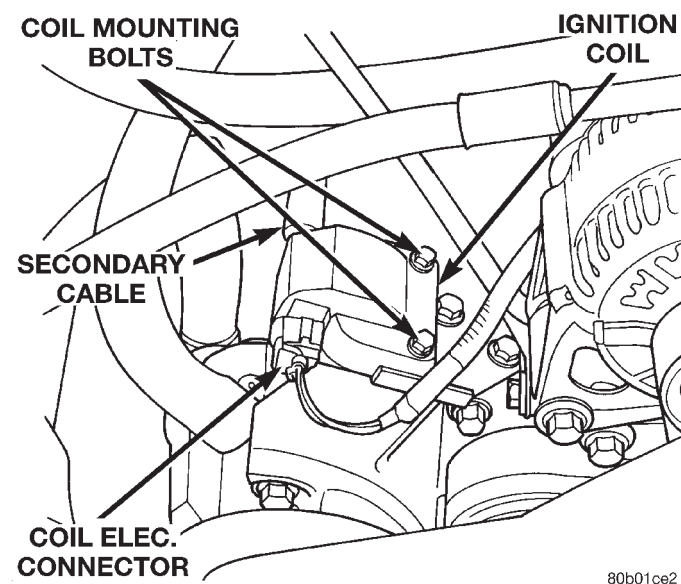

Fig. 42 Ignition Coil—5.9L V-8 HDC-Gas Engine
5.9L V-8 HDC-Gas Engine: The coil is mounted to a bracket that is bolted to the air injection pump (AIR pump) mounting bracket (Fig. 42).